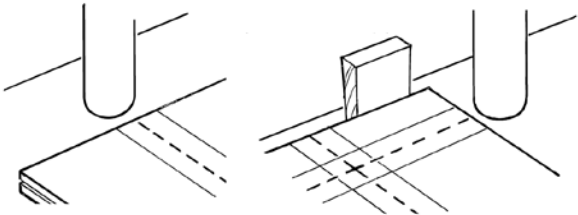

**Fig 7** Tap panel into place with hammer and timber block
- Fix the next row of panels. Using a timber block and hammer, tap the panel into place (see Fig 7). Remove glue squeeze-out with a damp cloth, ensuring that all traces of glue are wiped off the boards.